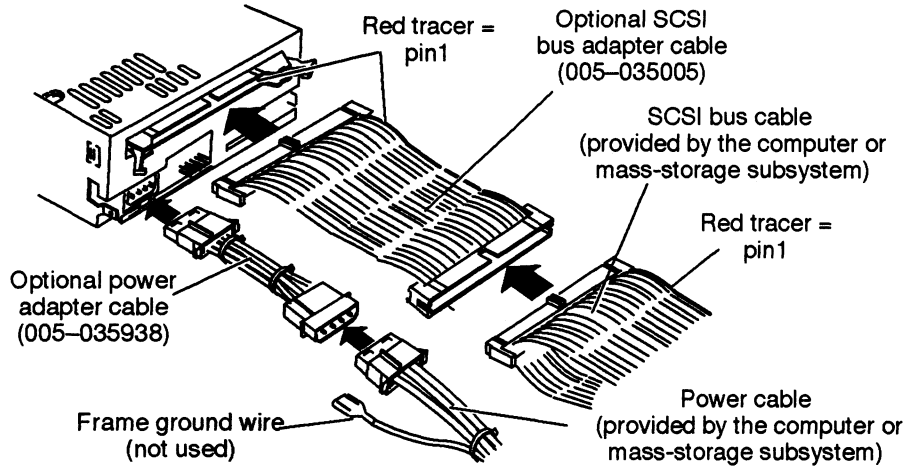
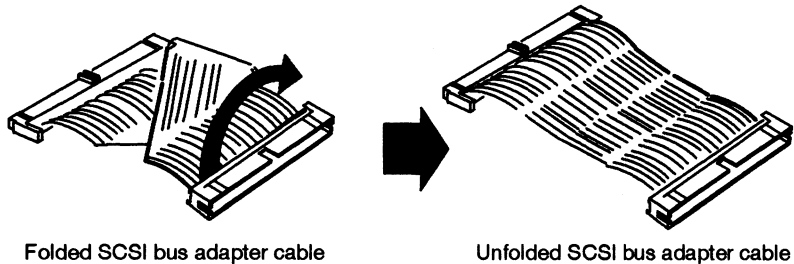

Figure 8 Connecting cables to the 4-mm tape drive
Figure 9 Connecting cables to the 4-mm tape drive
4. Plug the SCSI bus cable provided by the computer or mass-storage subsystem into the SCSI bus connector on the back of the tape drive (Figure 8).
If the computer's or mass-storage subsystem's SCSI bus cable does not reach the back of the drive, make an extender cable by unfolding an optional adapter cable 005-035005 (Figure 9). Then connect the unfolded adapter cable between the SCSI bus cable and the tape drive (Figure 8).
6. Connect the optional power adapter cable to the power connector on the drive (Figure 8).
7. Connect the power cable to the other end of the optional power adapter cable (Figure 8).